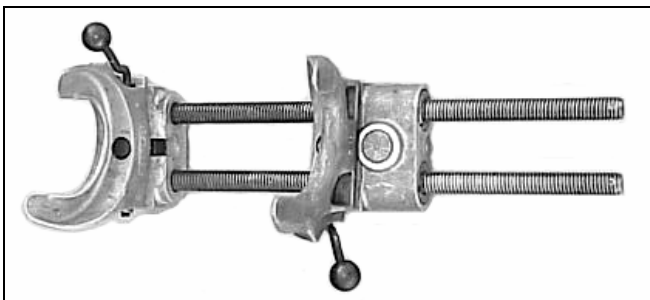

Figure 7
- 3) ☐ Compress coil spring (615) to 16" in length. Use a quality spring compressor like the one shown in figure 7.